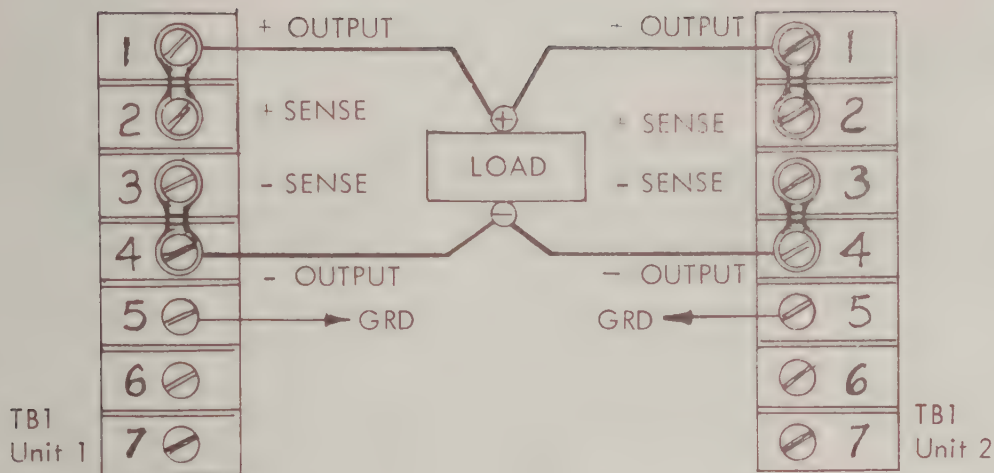

Figure 4
A maximum of four (4) units may be operated in parallel. When operating QSA power supplies in parallel, only one of the supplies may act as the sensing source and amplifier; therefore, the amplifier Q10 in a "master" unit is used to drive the Darlington connection in all the units in parallel. (See Figure 4).